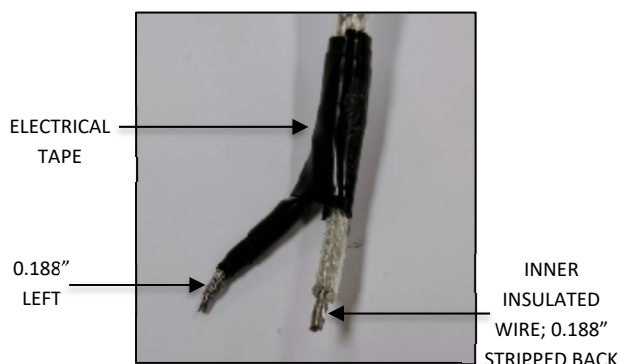
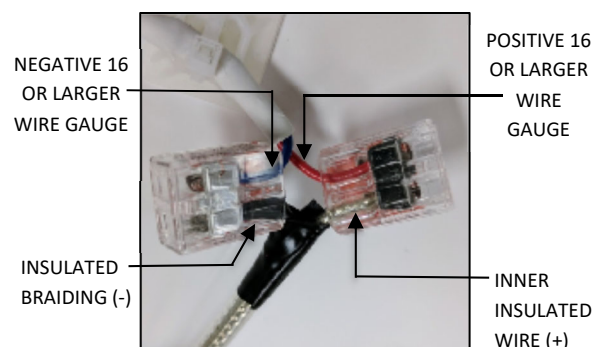

FIG. 26
FIG. 27
3. Using electrical tape, insulate the twisted strands leaving 0.188" exposed for connections. Strip off 0.188" of the inner insulation as you normally would for 18AWG stranded core wire as shown in FIG. 26 below. Connect the inner insulated wire (+) to the positive 16 gauge or larger wire ran in step 5 at the hanging bracket and Connect the outer braiding (-) to the negative 16 gauge or larger wire ran in step 5 at the hanging bracket FIG. 27 below.